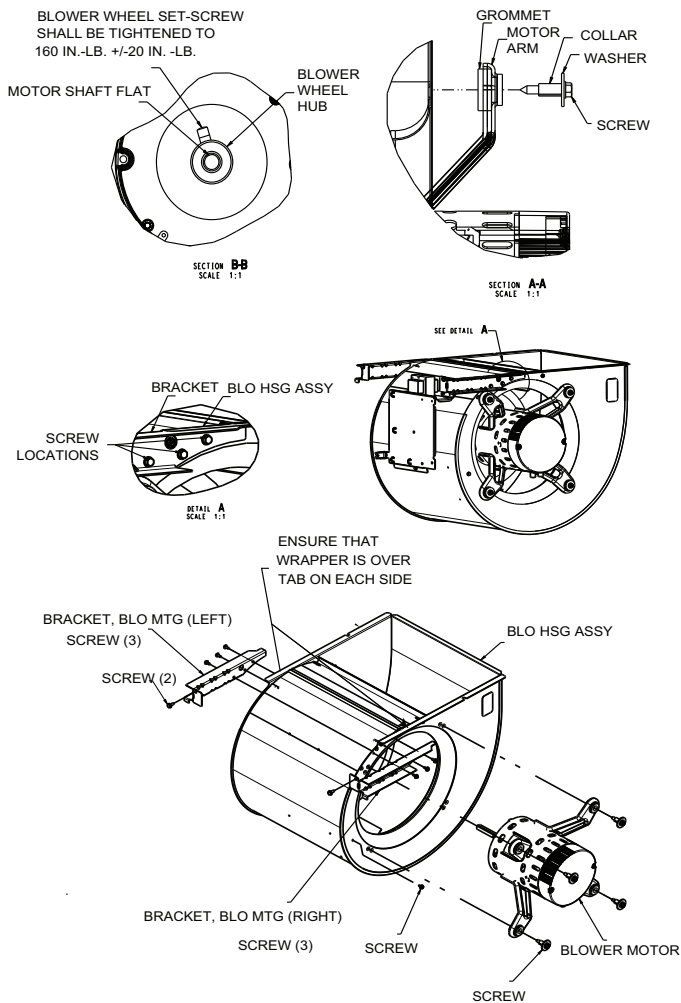

Fig. 66 – Blower Assembly on 1002122
6. On 11002122 size, the top screw securing blower to shelf must be removed in order to remove the blower. (See Fig. 66) Clean blower wheel and motor by using a vacuum with soft brush attachment. Be careful not to disturb balance weights (clips) on blower wheel vanes. Do not bend wheel or blades as balance will be affected.
15. On 1002122, ensure that the blower wrapper sits on top of the two tabs on blower sidewalls. (See Fig. 66) Reconnect blower leads to furnace control. Refer to furnace wiring diagram, and connect thermostat leads if previously disconnected.